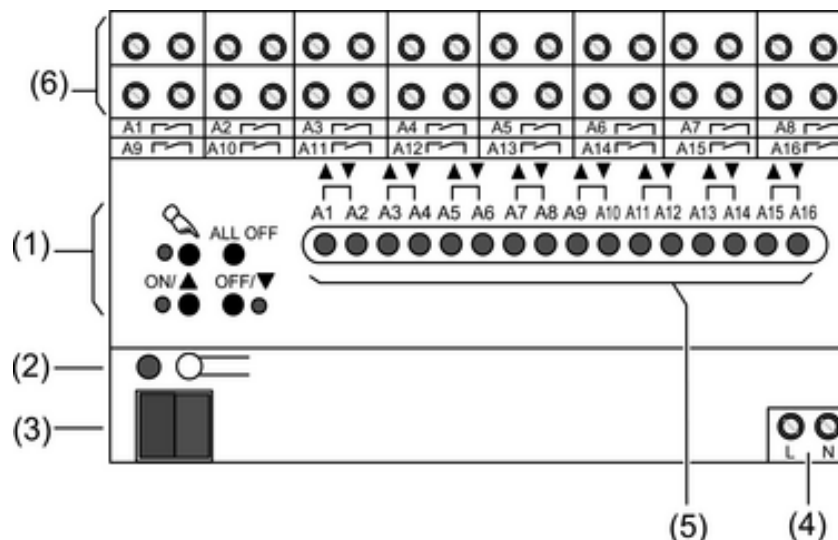

Figure 1
The status LED **A1...** (5) indicate the states of the outputs (Figure 1).